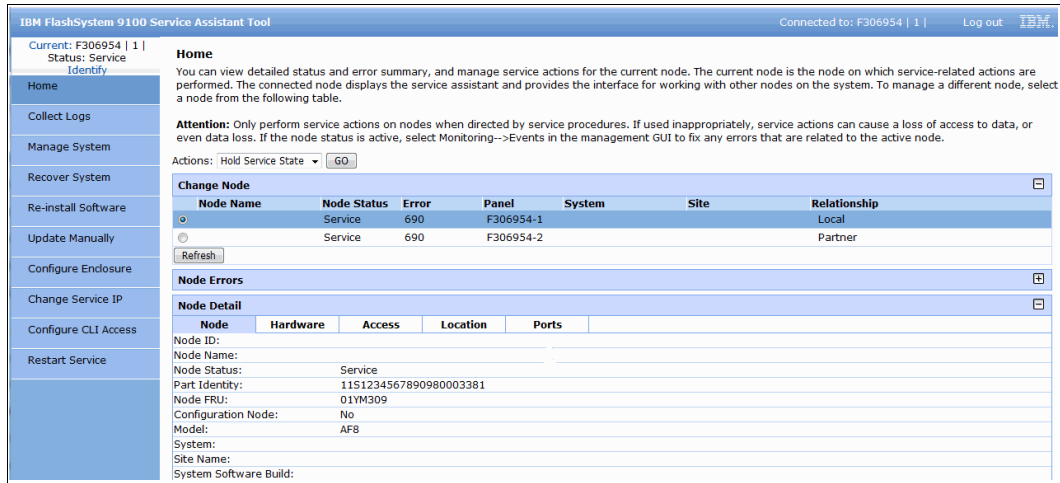

Figure 5-31 Change Node 1 status to Candidate
- Node 1 and 2 are in Service status. Click node 1, select **Exit Service State** to change the node from Service to Candidate status, as shown in Figure 5-31.